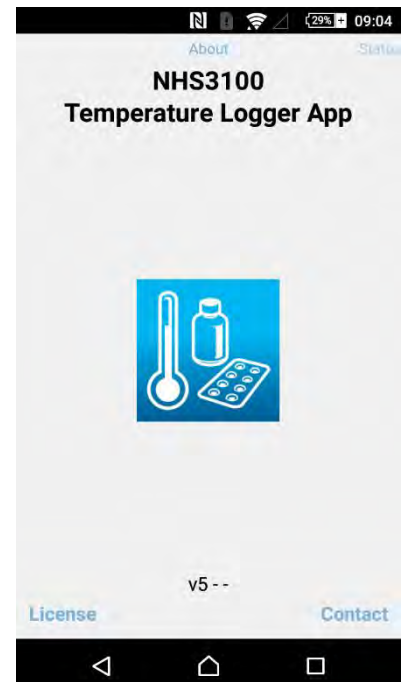

Figure 2: Initial screen after launching the app.
1. Launch the app The initial screen shown in Figure 2 appears.